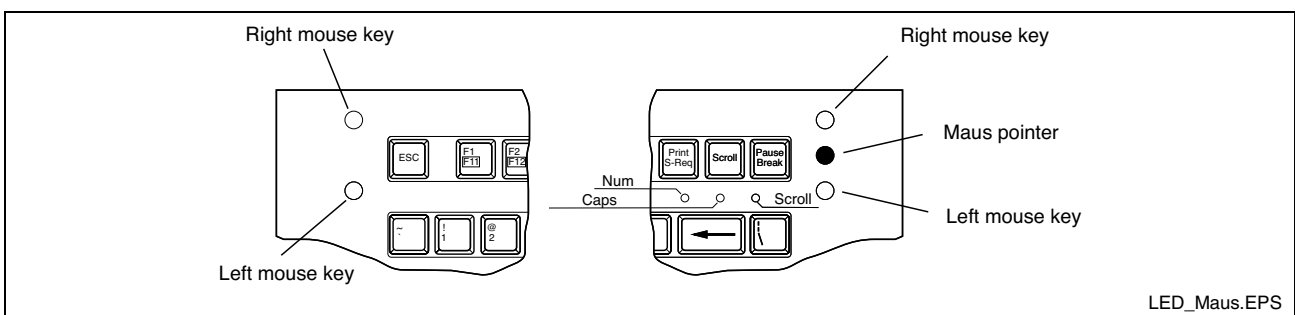

Fig. 5-2: Position of the mouse pointer with explanation of the LEDs
The mouse pointer is situated on the right-hand side of the keyboard and serves to move the mouse. The mouse buttons are arranged above and beneath the mouse pointer. You will find the same functions on the left top side of the key front; the buttons are wired parallel. The functions are illustrated in Fig. 5-2.
LEDs If one or several of the three indicating LEDs flash, the Num, Caps-and/or Scroll functions are activated. The function assigned to the respective LED is also illustrated in Fig. 5-2.
- Fig. 5-2: Position of the mouse pointer with explanation of the LEDs 5-1